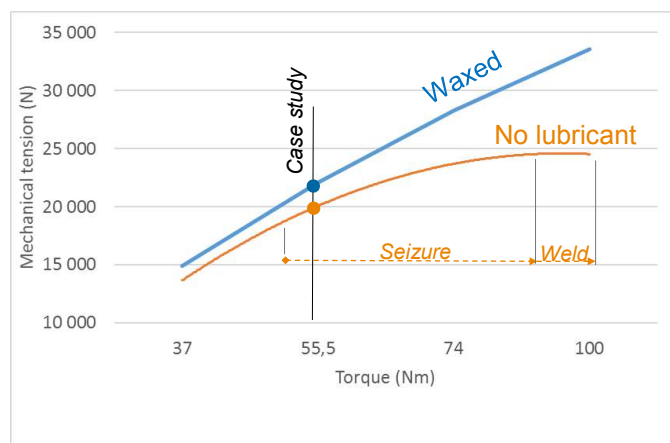

Figure 9
Conventional connectors are mostly supplied with bolts without any lubricant. The seizure effect of stainless steel bolts is well known. Under high torque, the pressure in the thread (hertz) is such that the friction coefficient becomes very high, inducing a "cold weldment" phenomenon into the file. The expected mechanical tension on the bolts is not achieved. Figure 9 graphs the relationship between the applied torque "T" (Nm) and the measured mechanical tensile force "F" in the bolt (N). It shows the benefit of the wax which provides a linear relationship between the torque and the tensile force. In the meantime non-lubricated bolts show filet seizure from around 50Nm until the curve becomes flat due to cold weldment of the bolted assembly.
For our case study we will consider the torque value of 55Nm which is the maximum applicable torque to a non lubricated M10 bolt as seizure effect appears around this value (Figure 9).